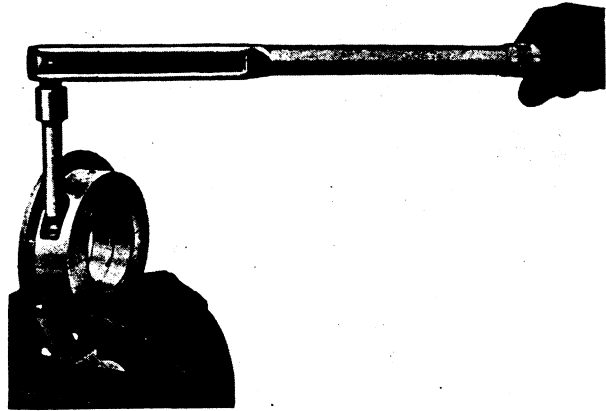

FIG. 155.
6. Using Service Tool FT.113 (FT.86 up to Engine No. SA.306E) shown in Fig. 155, unscrew socket screws attaching upper and lower halves of all bearing housings and extract bearing liners.
- ## 4. Front Main Bearing Housing Fig. 155.